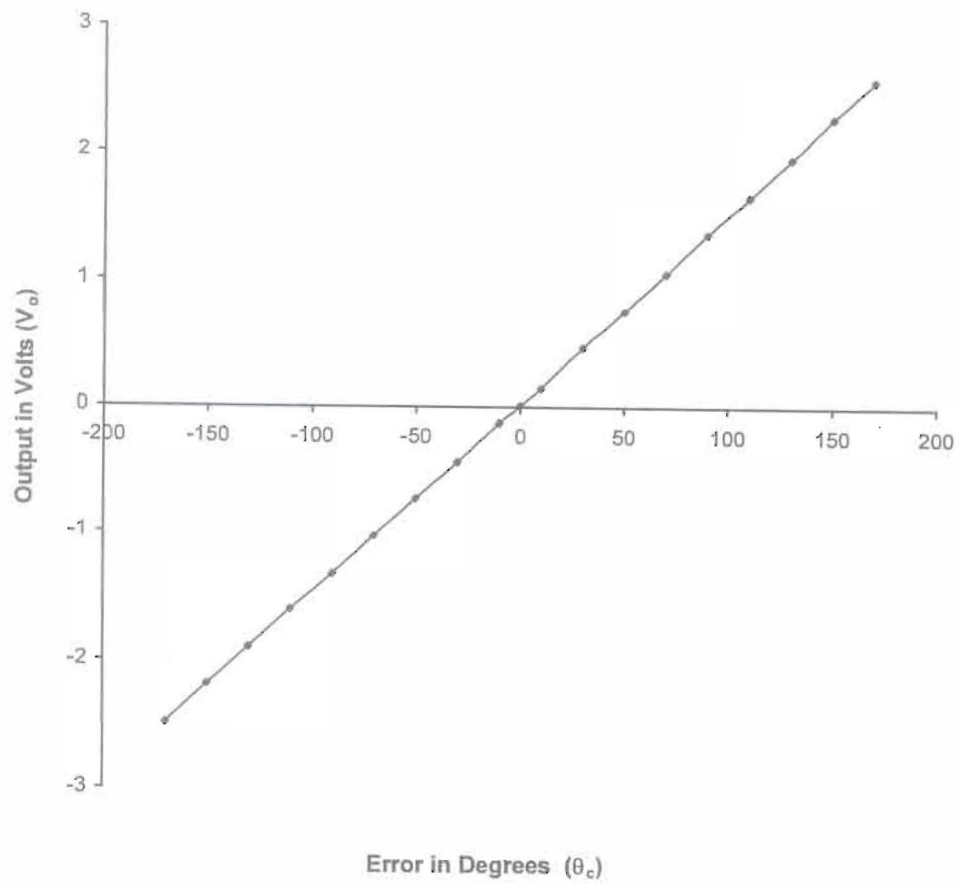

Fig. 5 Error Vs. Output with D.C. Excitation
From the graph between  $V_o$  and  $\theta_e$  (Fig. 5)
*Linearity:* The experimental results of Fig. 5 show a near perfect linearity since the deviation in  $V_o$  from ideal value, if any, is not measurable. In some cases, however, maximum deviations of upto 50mV may be observed which corresponds to 1% linearity specification of the potentiometers.